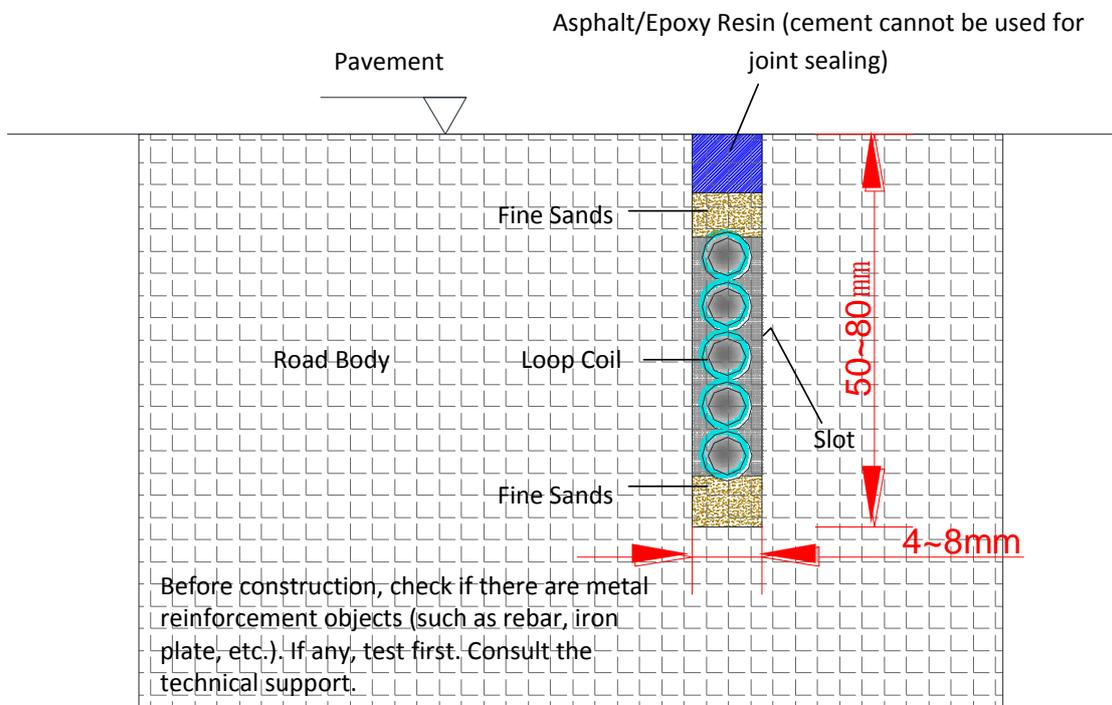

Figure 2-2 Sectional View of Loop Construction
2. The loop coil slot should be 4-8 mm wide and 50-80 mm deep, as shown in Figure 2-2. After the loop coil slot is cut, lay fine sands in the slot first and then wind the loop coil. Spread another layer of fine sands over the loop next and pour asphalt or epoxy resin to fill the slot at last.